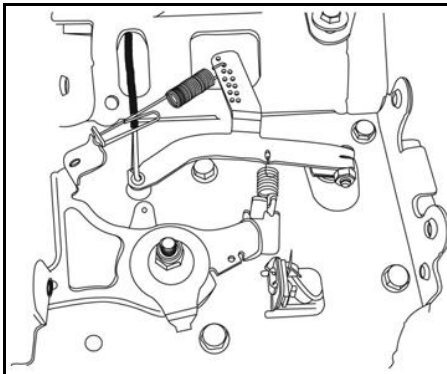

Figure 1
- Figure 1 - Horizontal Shaft Models 110000, 120000, 150000, 200000, 210000.